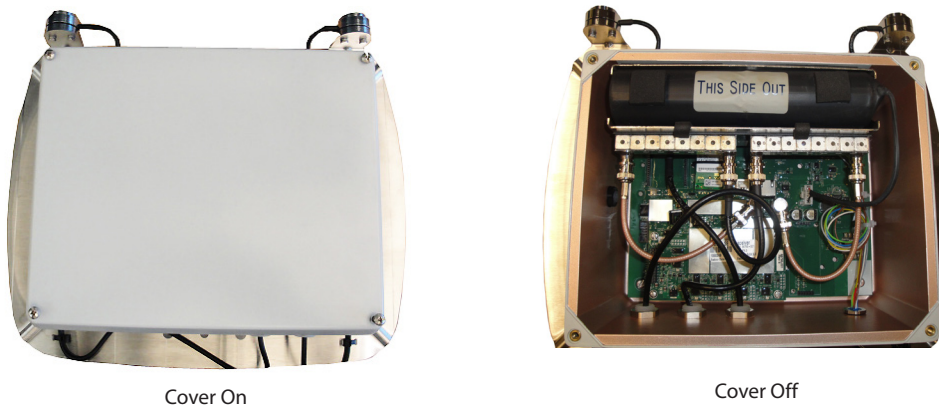

Figure 23: Enclosure Cover Removal (GPRS unit shown)
1. Using a #2 slotted or Phillips screwdriver, remove the enclosure cover by unscrewing four corner-cover screws (Figure 23). The cover will not be used again and may be discarded.